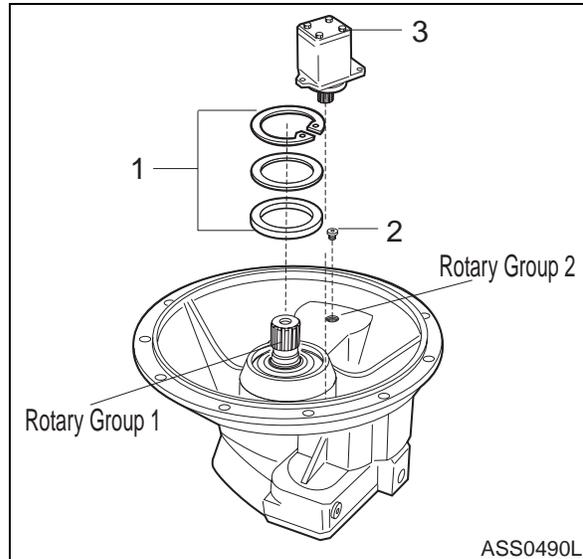

Figure 50
4. Note disassembly position: (1, 2 and 3, Figure 50).